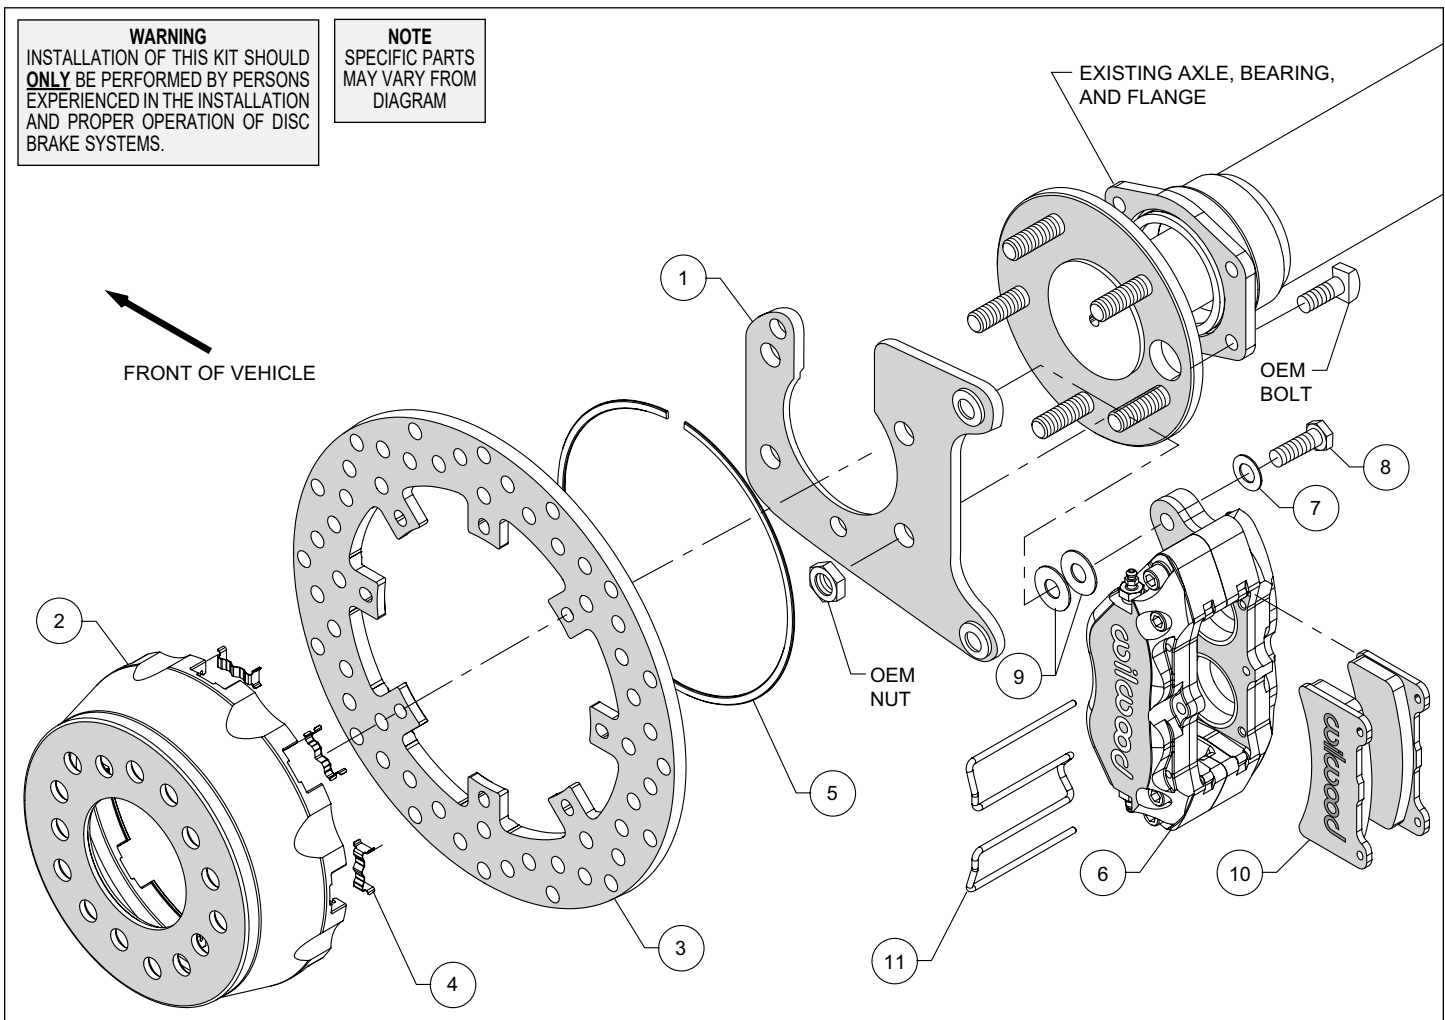

Figure 1. Typical Installation Configuration
**Assembly Instructions** (numbers in parenthesis refer to the parts list and Figure 1 on the preceding pages): **CAUTION:** All mounting bolts must fully engage clinch nuts. Be sure to check that all bolts are either flush or protruding through flanged side of clinch nut after shimming, Figure 5.
- Install the caliper mounting bracket (1), with the slot for the axle pointing upward, to the housing flange using the OEM bolts and nuts, as shown in Figure 1 and Photo 1. Ensure that the heads of the clinch nuts are facing outboard, Photo 1. Apply red *Loctite*® 271 to the OEM bolt threads and torque to OEM specifications.
- Insert the dynamic mount wear plates (4) into the slots in the hat (2) making sure the tabs snap in place, Photo 2. Orient the rotor (3) as shown in Figure 1 and Photo 3, with the flush mount tab side facing the hat. Attach the rotor to the hat using snap ring (5) by pushing down on the rotor and installing the ring into the groove in the hat, as shown in Photo 4. Ensure that the ring is fully engaged in the groove.
- Align the correct hole pattern in the hat (2) with the axle stud pattern and slide the hat/rotor assembly onto the axle hub. **NOTE:** The hat must fit flush against the axle flange or excessive rotor run out may result. Install three lug nuts (finger tight) to keep the hat/rotor in place while continuing with the installation. **NOTE:** The hats included in this brake kit are drilled for .68" diameter wheel studs.
- NOTE:** Please reference the caution statement at the beginning of the assembly instructions. Mount one caliper (6) onto the mounting bracket (1) using bolts (8) and washers (7), as shown in Figure 1. Initially place two .035" thick shims (9) on each bolt between the caliper and the bracket, Photo 5. Temporarily tighten the mounting bolts and view the rotor (3) through the top opening of caliper. The rotor should be centered in the caliper, Photo 6. If not, adjust the caliper by adding or subtracting shims between the bracket and the caliper. Always use the same amount of shims on each of the two mounting bolts. **NOTE:** The end of each bolt must be flush with or slightly protruding from the head of the clinch nut. If necessary, place spare shims between washer and caliper mounting ear to achieve the proper clinch nut engagement, as shown in Figure 5. Once the caliper alignment and clinch nut engagement are correct, remove the bolts one at a time, apply red *Loctite*® 271 to the threads, and torque to 40 ft-lb.